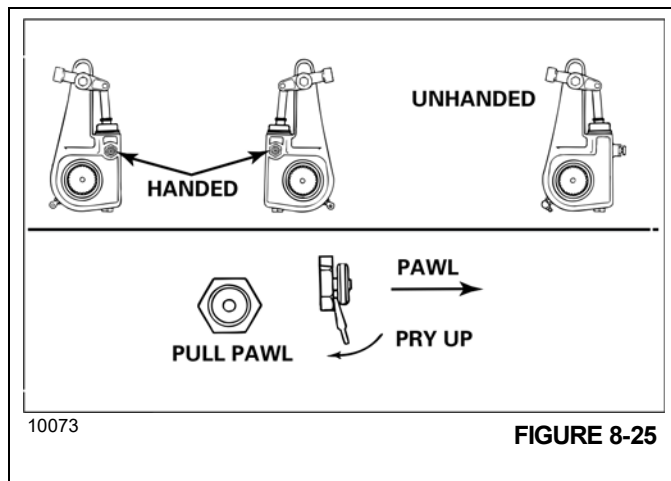

FIGURE 8-25
4. Disengage the pull pawl. Pry the pull pawl at least 1/32-inch to disengage the teeth. See (Figure 8-25).